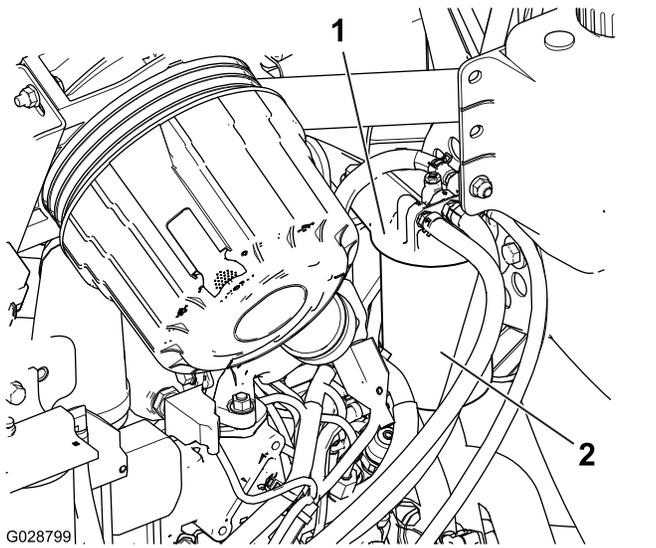

Figure 59
1. Clean the area around the fuel filter head (Figure 59).
2. Remove the filter and clean the filter-head mounting surface (Figure 59).